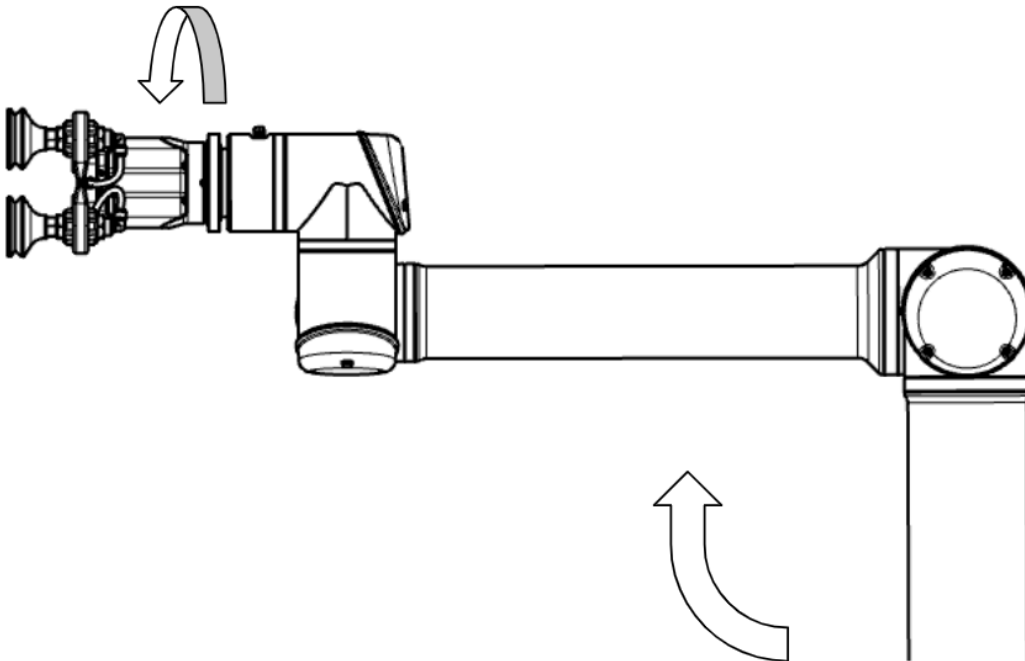

Figure 13: Device horizontal orientation with the direction of roll indicated
2. Move the device to horizontal orientation as shown in Figure 13.